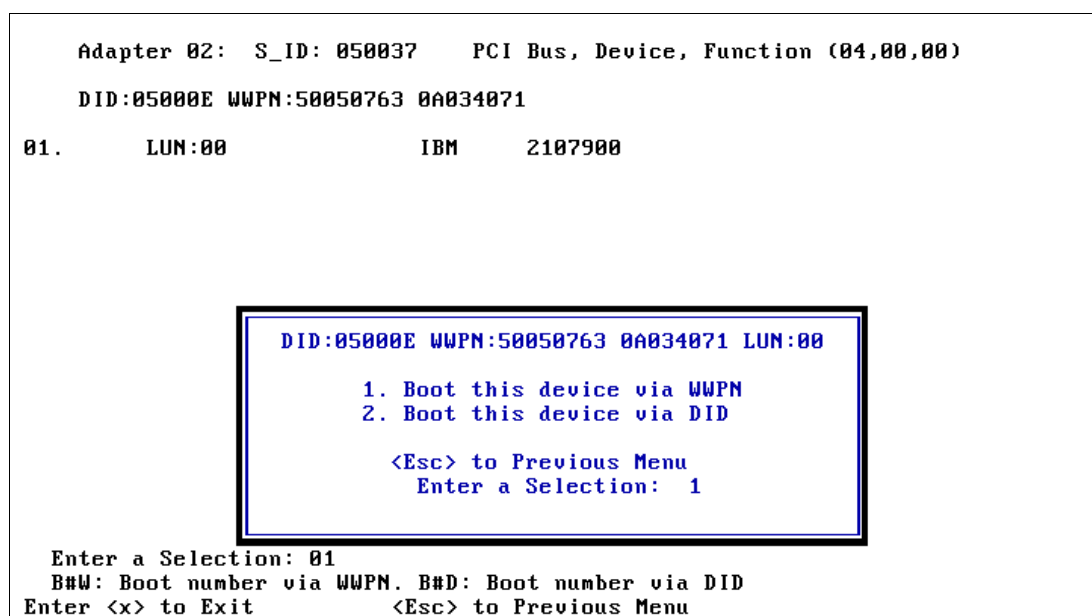

Figure 3-35 Emulex boot mode selection.
13. A new panel will ask you to select the LUN and the boot mode as shown in Figure 3-35. The options for booting the device are by WWPN, or by DID. We choose 1 to boot by WWPN, as shown in Figure 3-35.